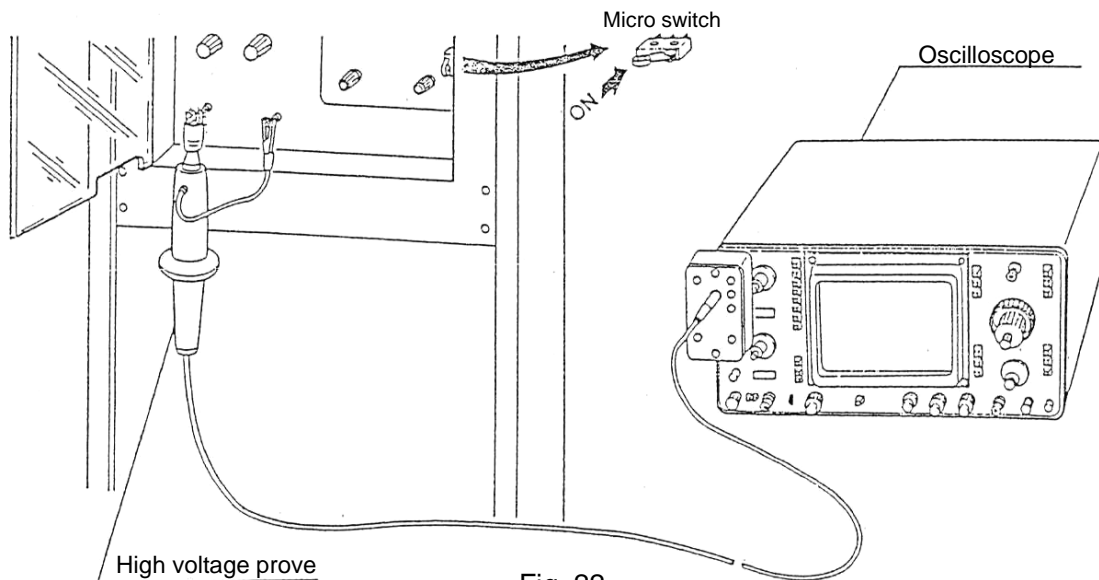

Fig. 22
3. Make connections as shown in Fig. 22 and close the acrylic door.